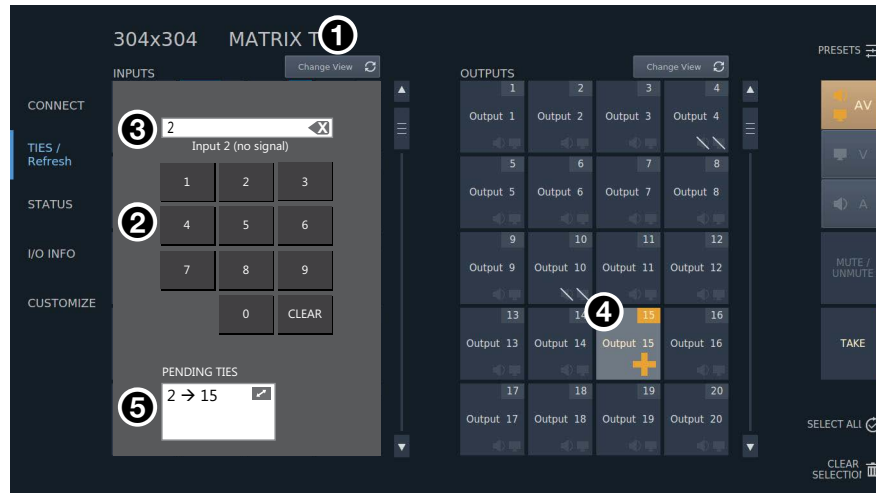

Figure 33. Change View – Inputs
Figure 33 shows the view when **Change View** for inputs (1) is pressed.